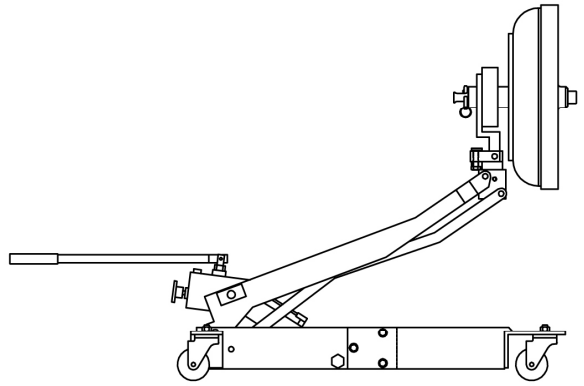

FIGURE 2
2. Raise the Lifting Arm Assembly slightly, and then rotate the clutch to an upright position, as shown in Figure 2.